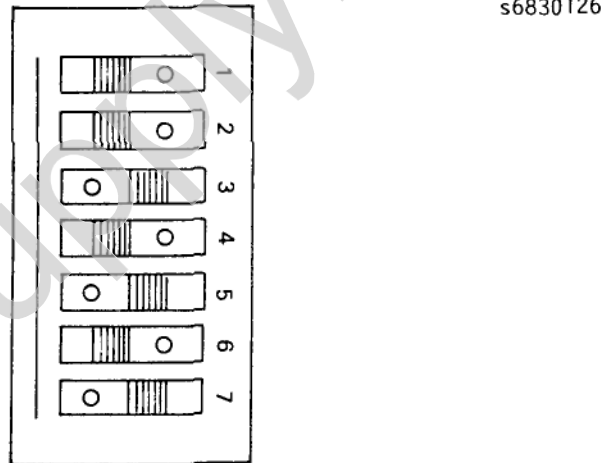

Figure 4. DIP SWITCH
- 4. Any combination of Input, Output, I/O Transmitter **and/or** Remote I/O Driver modules can be installed in the other card slots in the rack, after the DIP switches (Figure 4) for each have been set to the appropriate address as indicated in Figure 5. Note that an optional wiring trough is available to facilitate field-wiring to the various modules.